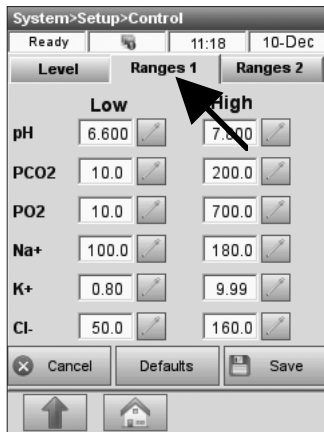

Fig. 3-9 Confirm Assay Ranges
8. Press the **<Ranges 1>** tab to confirm the assay ranges on the package insert supplied with the control material (Fig. 3-9).